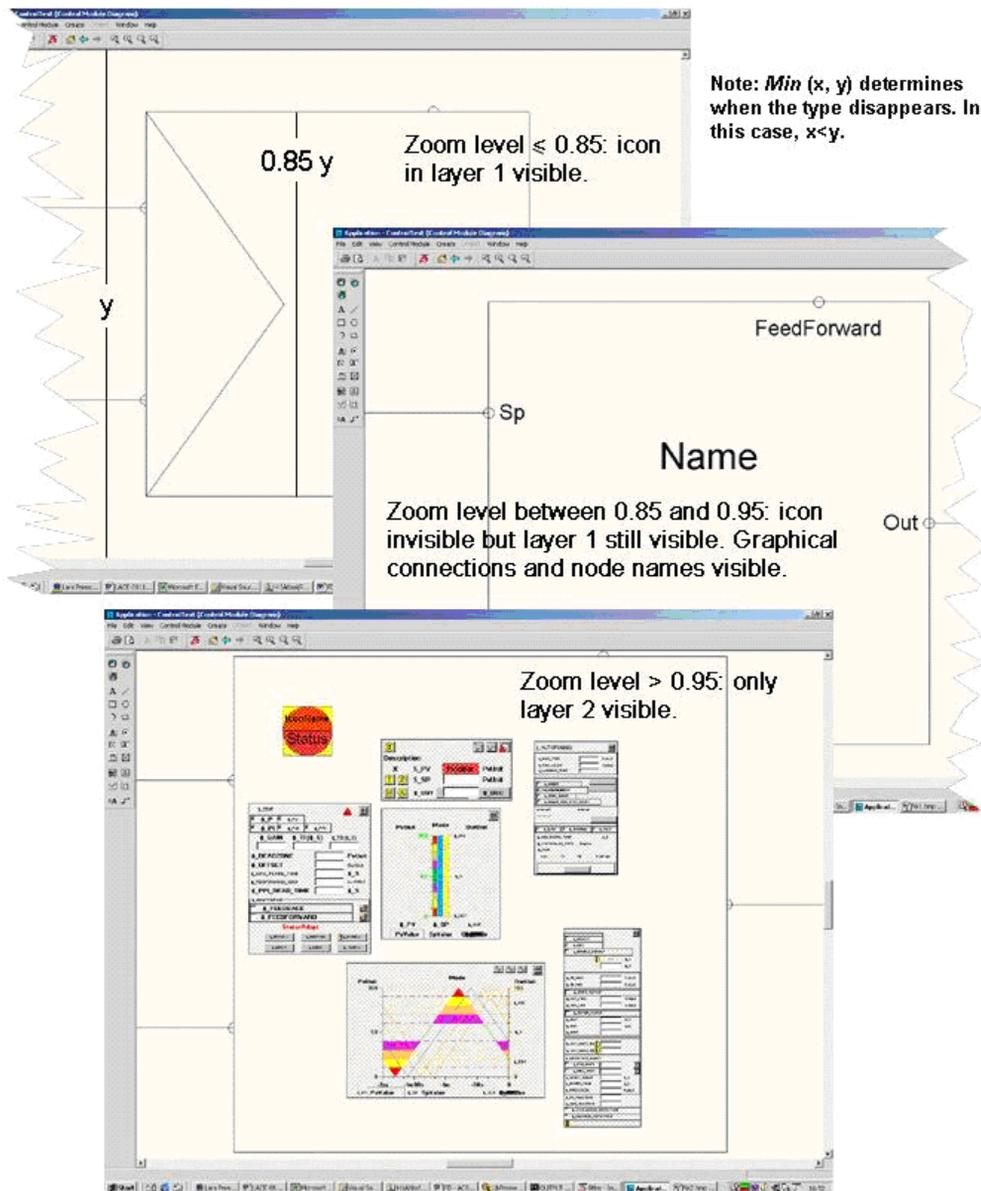

Figure 5. Recommended visibility of layers and icon at different zoom levels.
- Control module types having graphical connections and a Name parameter, should have the name visible in layer 1 together with the node names, Figure 5 in Point-to-Point Connection using ControlConnection Data Type on page 38.